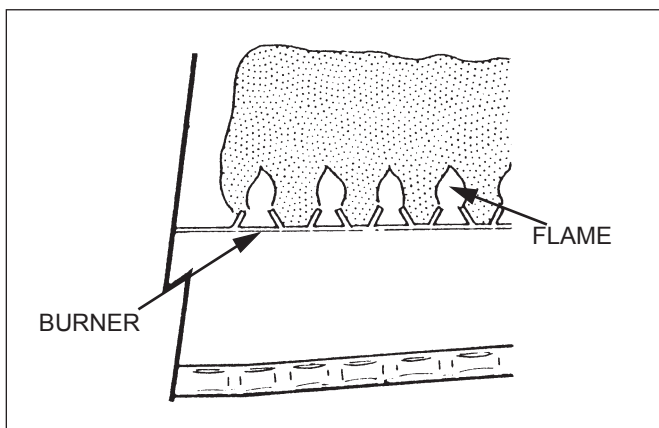

Figure 26. Main Burner Flame
- b. 1 to 4 inches (25mm to 102mm) above burner surface. See Figure 26.